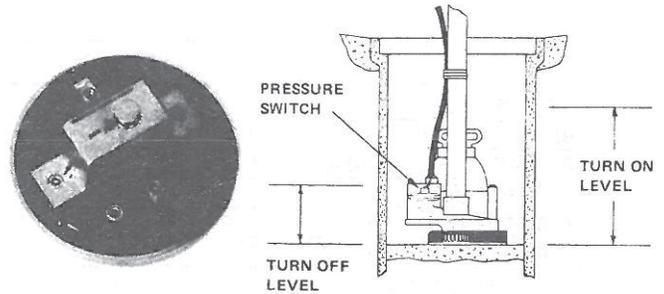

Figure 3 - Standard SPST
3. Determine NUMBER OF TERMINALS and SWITCH ACTION. Refer to figures 3, 4, and 5.